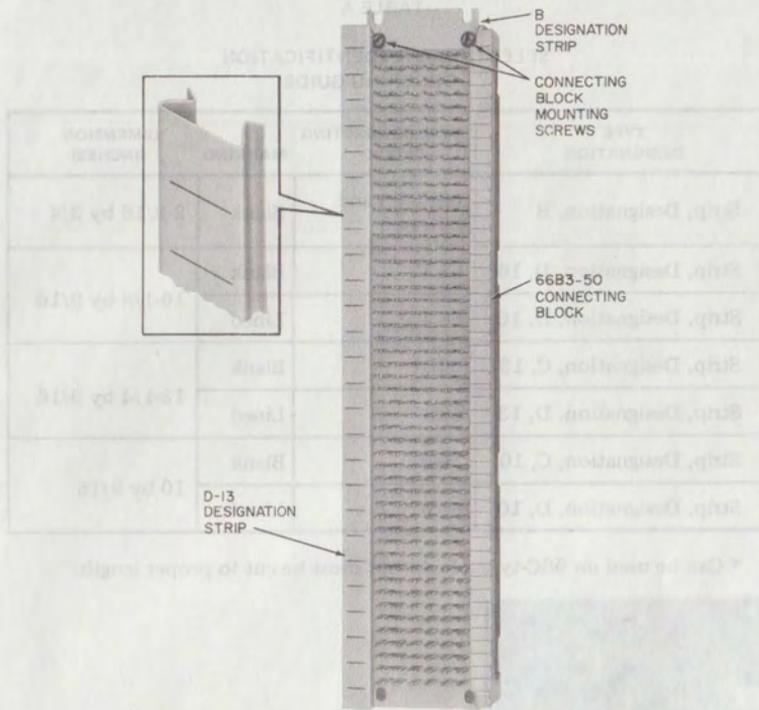

Fig. 18—Designation Strips
6.01 The B designation strip is designed to mark 66B3-50 and 66B4-25 connecting blocks (Fig. 18).
6.07 The D designation strips (Fig. 18) are the same as the C designation strips, except the D strips are furnished with imprinted lines. The lines occur every other row of terminals to indicate pairs (Table A).♦